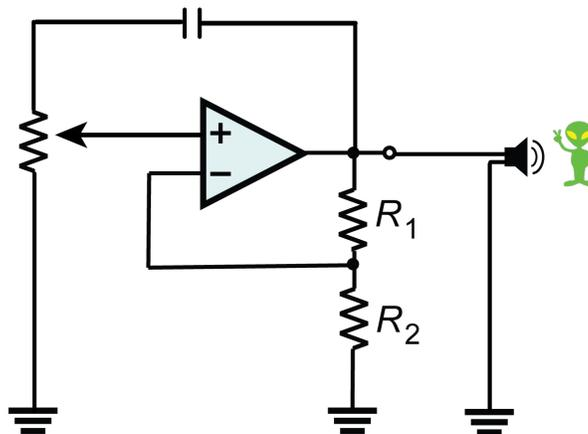

Figure 11: Here is the schematic for the multivibrator circuit we are going to use.
- 4.1. Assemble the circuit in Figure 11 by adding one pot (easiest if the knob points toward the outside) and one $0.1\mu F$ capacitance (plus jumper wires) to your circuit.